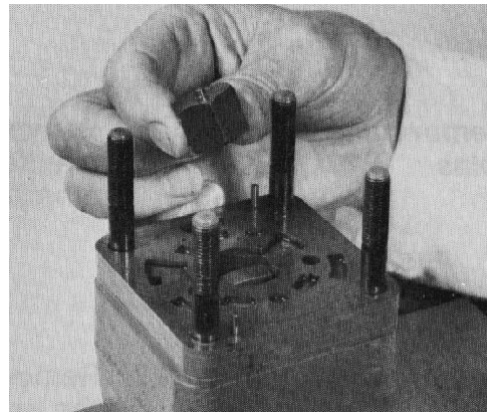

Figure 37
16. Remove the hex drive assembly from the drive link (Fig. 37).